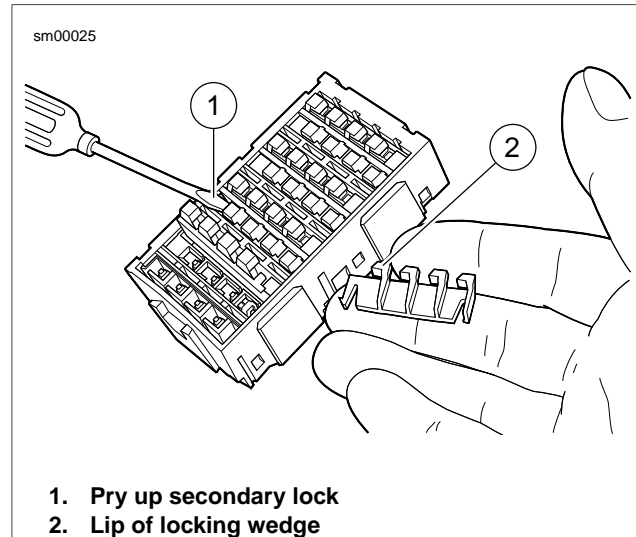

Figure A-41. Fuse Block: Remove Secondary Locks
1. See Figure A-41. To remove secondary locks, insert end of small flat blade screwdriver (1) under lip of locking wedge (2) and gently pry up secondary lock.